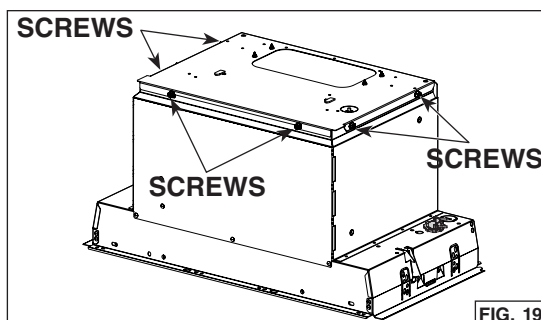

FIG. 19
6. Remove the 6 screws (2 per side and 2 in front) retaining the blower support plate to the top of the unit (FIG. 19). Carefully lift out and set aside the blower with its support plate. The blower will be reinstalled later in the unit.